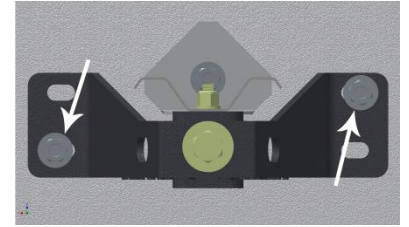

Figure 3
1. Drill two anchor bolt holes 2 1/4" in. deep in the pad diagonally opposite of each other. (Figure 3)